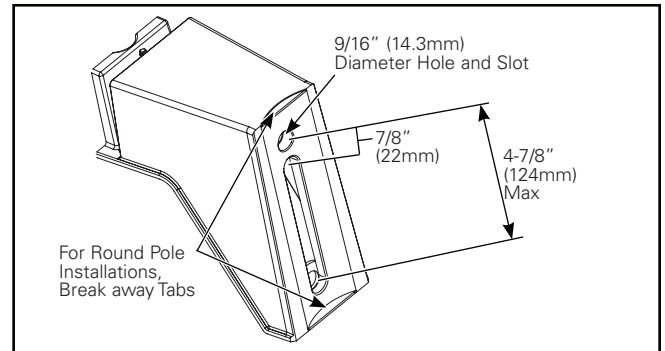

Figure 10.
- The pole mount arm is designed for a square or round pole. Round pole installation will require the break-away tabs to be removed. Use pliers to remove tabs. (Figure 10.)